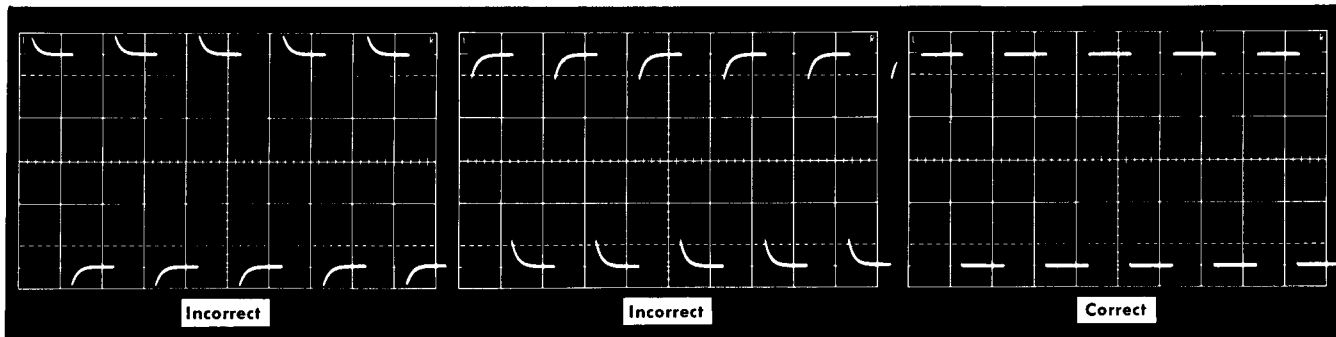

Fig. 2-7. Probe compensation waveforms using a 1-kHz calibrator signal.
5. Adjust the probe compensation for best square-wave response as shown in the right-hand picture of Fig. 2-7.